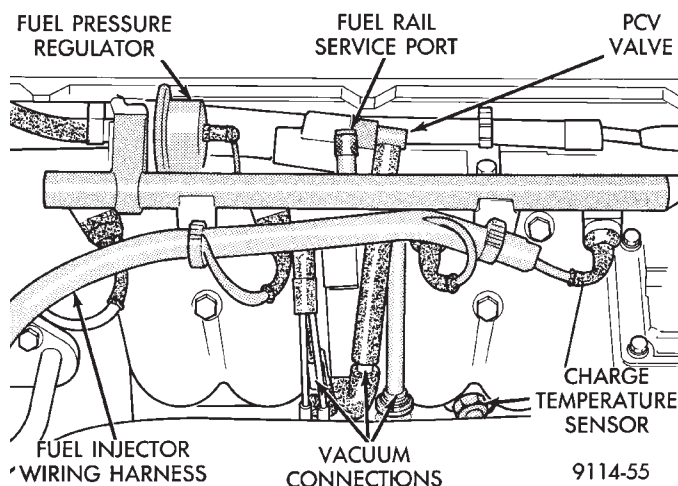

Fig. 16 Vacuum and Electrical Connections
(22) Check vacuum hose connection between vacuum source and fuel pressure regulator (Fig. 16).
(23) Inspect the charge temperature sensor electrical connector (Fig. 16).
(24) Inspect fuel injectors wiring connectors (Fig. 16).